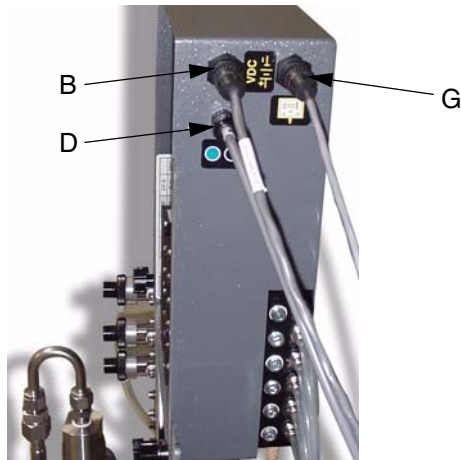

FIG. 15
2. Connect the other cable end to the Smart Fluid Panel connector $\text{⌚|}|$ ^{VDC} (B). FIG. 15.
- If you need to detach the Fiber Optic Cable (C) from the EasyKey Display, note how the cable is routed inside the enclosure. Ensure that the door can swing open and close without catching or pulling wires.
- Route the opposite Fiber Optic Cable end through the Smart Fluid Panel strain relief connector (D). FIG. 15. Do not route the cable with tight bends or kinks.
Station connector (G). FIG. 15.